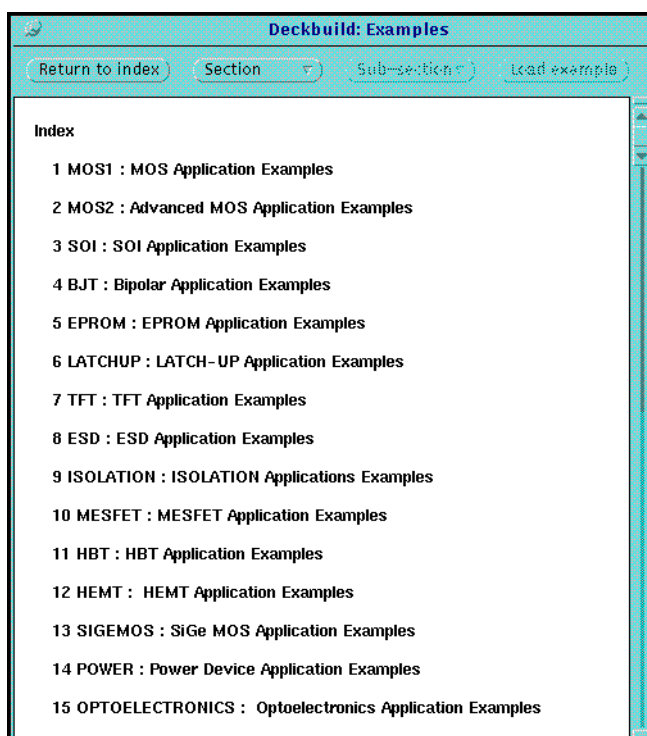

Figure 2-3: Main Control Menu
2. Without releasing the right hand mouse button, move the cursor down to select the **Examples...** item. Then, release the mouse button. A window listing a number of example categories will appear (Figure 2-3).